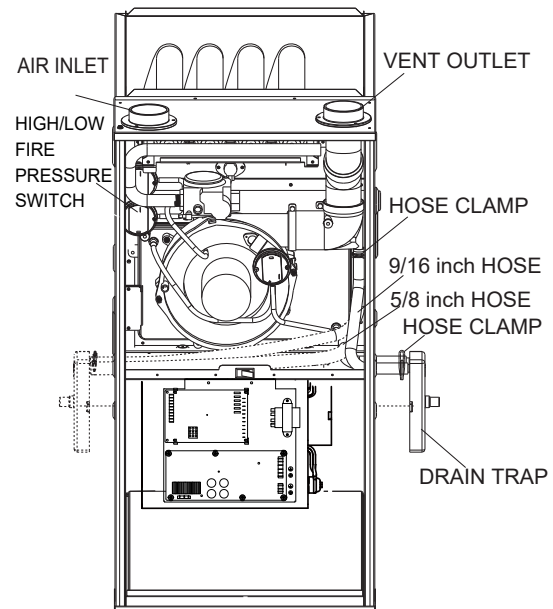

Fig. 6-7 Upflow Installation, Top Venting
- Connect 5/8 inch hose between collector box and trap and connect 9/16 inch hose between elbow and trap. (see Fig. 6-7). Cut the excess hoses if necessary.